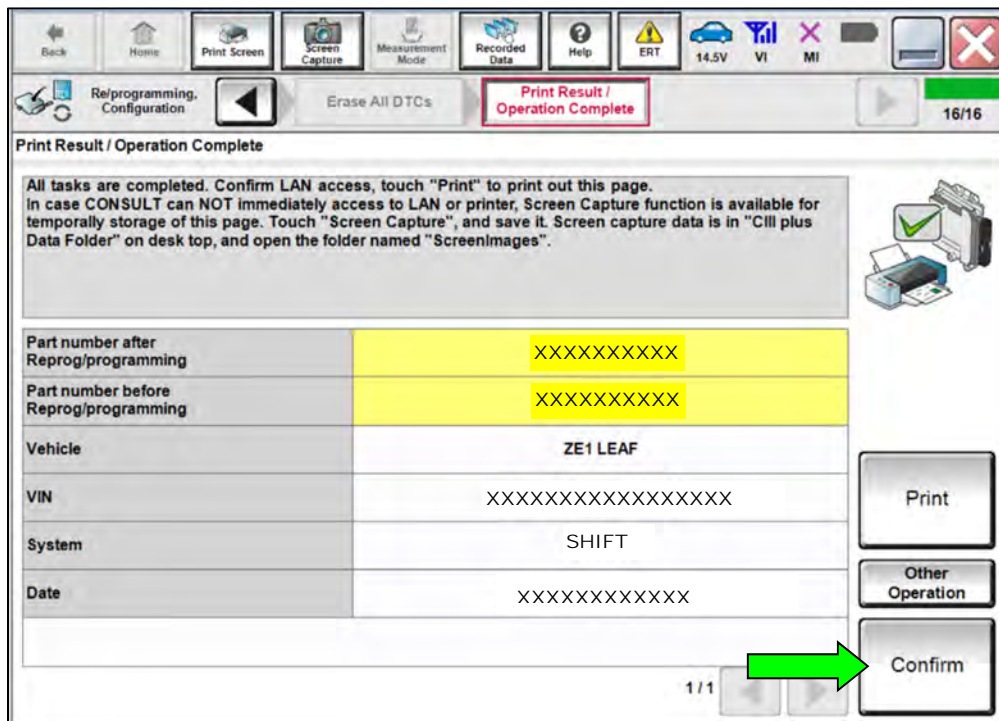

Figure 21
29. Print a copy of this screen (Figure 21) and attach it to the repair order for warranty documentation.